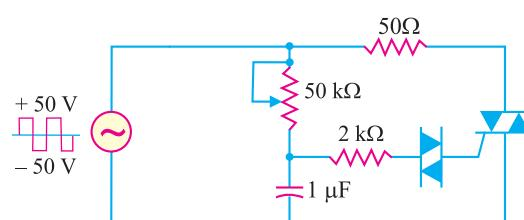

Fig. 21.35
7. If the triac of Fig. 21.35 has 1V across it when it is conducting, what is the maximum current through the  $50\Omega$  ?